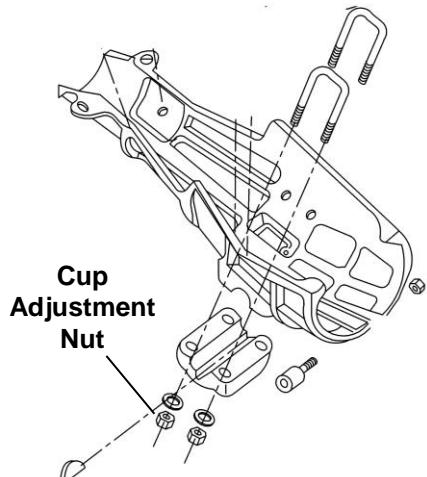

Figure 4.2-12
- a. When pins are being set too far forward, loosen the two top cup nuts and tighten the bottom two nuts (see Figure 4.2-12).